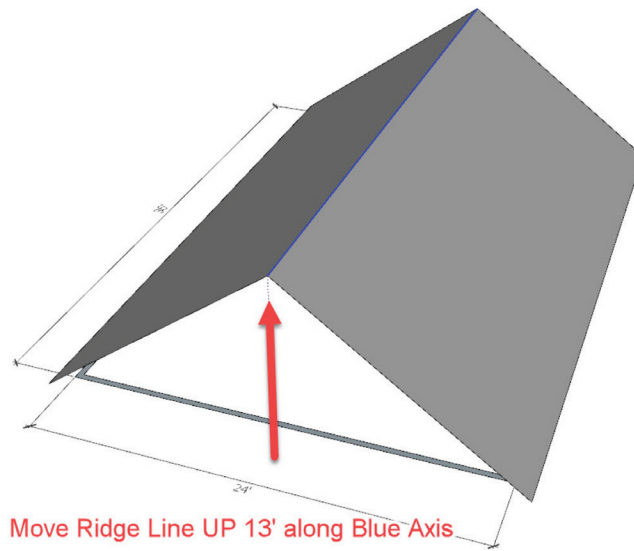

Figure 13.3 Create Pitched Roof.
With 12" gable end and eave overhangs, I have a rectangle in SketchUp that is 26' × 38'. Since the pitch is equal, the peak of the roof, or ridge, is centered. Follow along, if you would like. Draw a line from the midpoint of the rectangle to the midpoint on the other side. You should now have two rectangular faces (the gray faces you see in the above image). Starting with these two flat faces, you can make it a 3D roof with a 12:12 pitch, by simply picking the ridge line and moving (M) it up and type 13' and press Enter on your keyboard and you get the image in Figure 13.3 (for every 12" of run, there is 12" of rise).